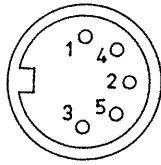

Figure 4.6
- (4) Note that the layout of pins of the REMOTE CONTROL connector is as per DIN standard and is not in the due order of number progression, as shown in Figure 4.6.